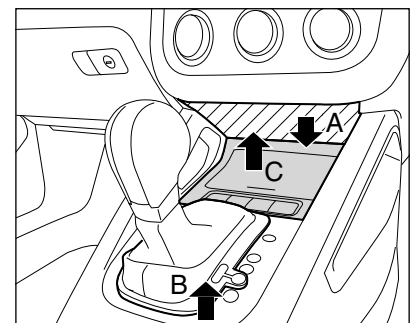

Figure 1 : Figure showing Removal of Covers
- Remove the cover of A by pulling down as shown in figure 1.
- As shown in figure 1, lift up the cover of B turning the shift boot inside out and wrapping it up over the shift knob. (Allowing installation without removing the shift knob)
- Remove the two screws from the front of the ashtray of C, as shown in figure 1. (torque screw T20 x 2)
- After having lifted up the front of C as shown in figure 1, remove all connectors and completely take off C.
- Return the cover of B in figure1 to its original position.